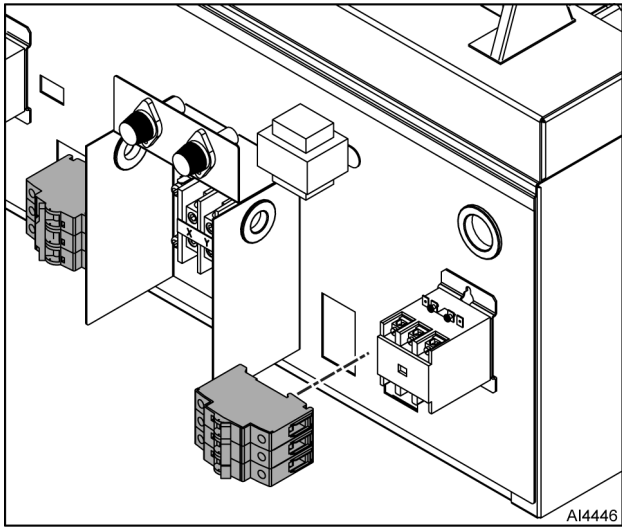

Fig. 26
2. Disconnect wires from circuit breaker (Fig. 26).